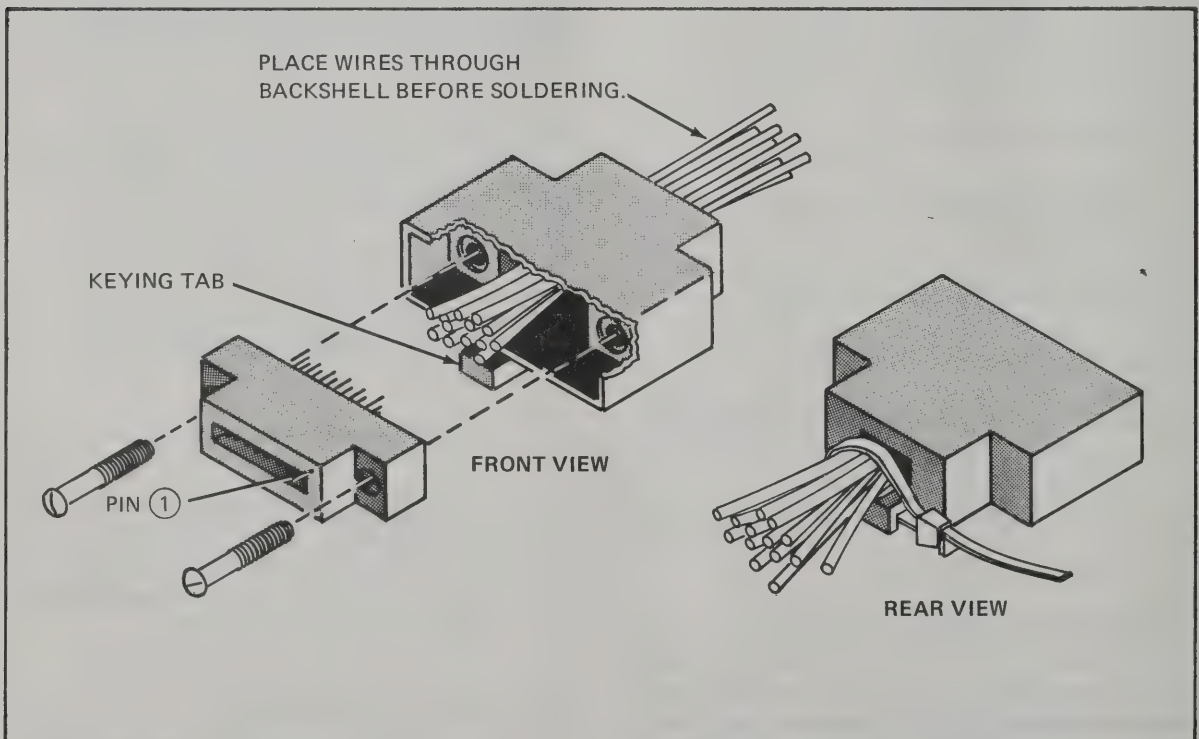

Figure 6-14. MATING CONNECTOR END OF THE DPOU INTERFACE CABLE
- b. Slide cable wires through the DPOU connector backshell (hood) as shown in Figure 6-14.
- h. Position the sleeving over the solder joints, and install the connector backshell (hood) and strain relief as shown in Figure 6-14.